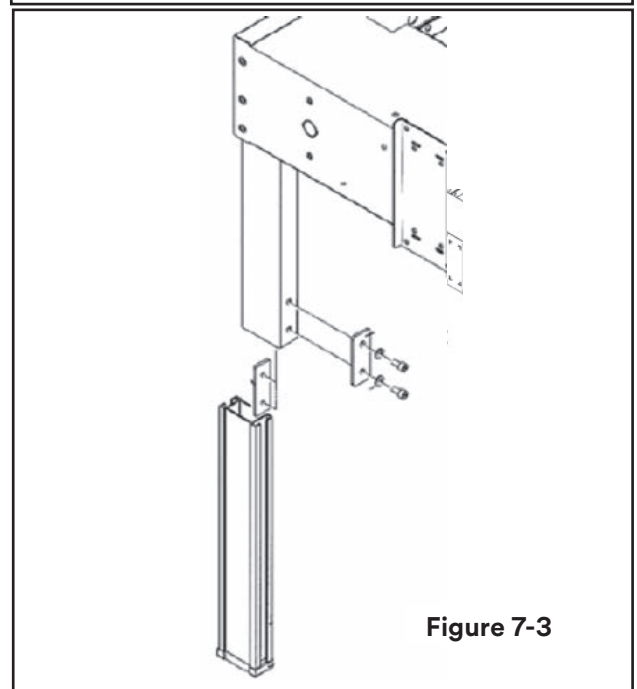

Figure 7-3
The case sealer is equipped with four (4) adjustable legs that are located at the corners of the machine frame. The legs can be adjusted to obtain different machine bed heights (Figure 7-3).